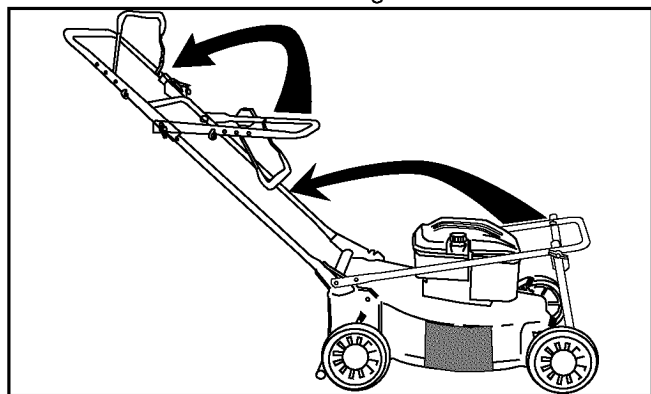

Figure 2
- Lift up and pull back on the upper handle to raise the handle into the operating position. Make certain the lower handle is seated securely into the handle bracket assemblies. See Figure 2.